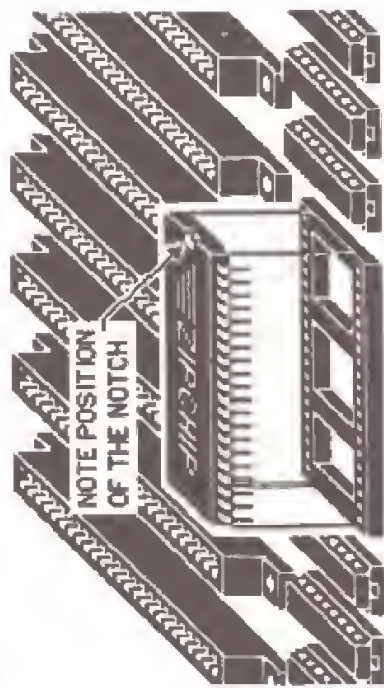

Figure 3: Installing ZIP CHIP in an Apple II Plus
9. Take the ZIP CHIP and place it over the empty socket. Be sure the notched end matches Figure 3 (Page 4).